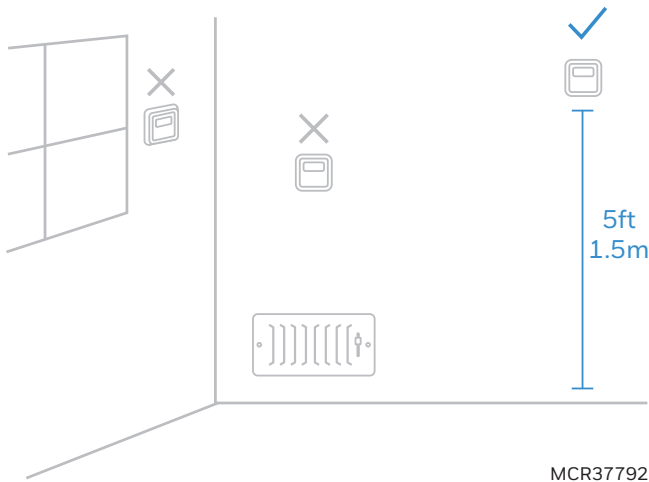

Fig. 33.
- DON'T place above air vents. See Fig. 33.